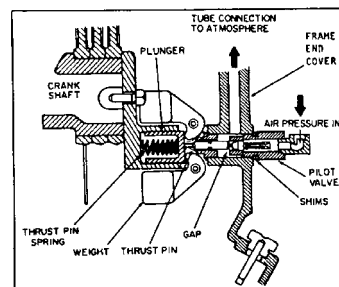
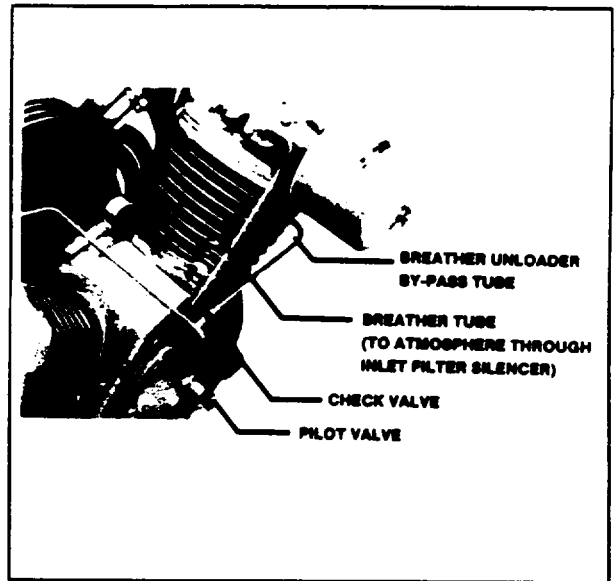

Figure 4-3. Position of weight and thrust pin when compressor is stopped.
Figure 4-5. Breather/Unloader By-Pass
As shown in Figure 4-3, the centrifugal unloader is attached to
the end of the crankshaft. thus when the compressor is in operation, centrifugal force acts upon the unloader weights and they swing outward. (See Figure 4-4). When the compressor stops, these weights retract, (Figure 4-3) permitting the thrust pin spring to move the plunger and thrust pin outward. The thrust pin opens the pilot valve and the trapped air pressure escapes from the cylinder and intercooler through a passage in the frame end cover (See Figure 4-5), through the unloader tube and to atmosphere through the inlet filter/silencer.
To adjust the pilot valve, refer to Figure 4-3, and proceed as follows:
5. Measure the gap between the pilot valve body and the frame end cover (See Figure 4-3).
OPERATION OF THE BREATHER/UNLOADER BY-PASS The breather/unloader by-pass tube lines eliminates air pressure build-up in the compressor frame by providing a passage for the air to escape through the inlet unloader (if opened) or (if closed) through the check valve (See Figure 4-5), therefore, by-passing the inlet unloader and escaping to atmosphere through the inlet filter/silencer.